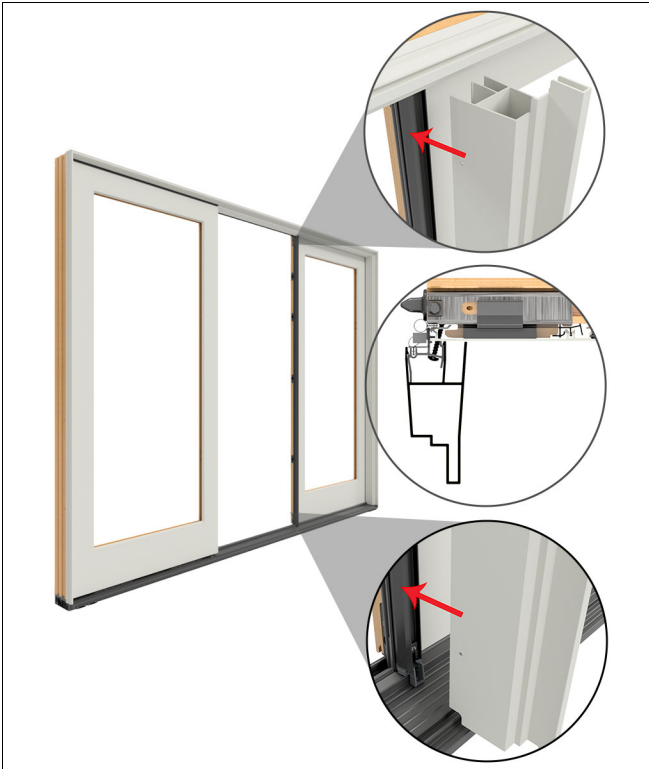

Figure 42
21. Install the screen stop onto the mull base and pound into place with a heavy rubber mallet. See Figure 42.